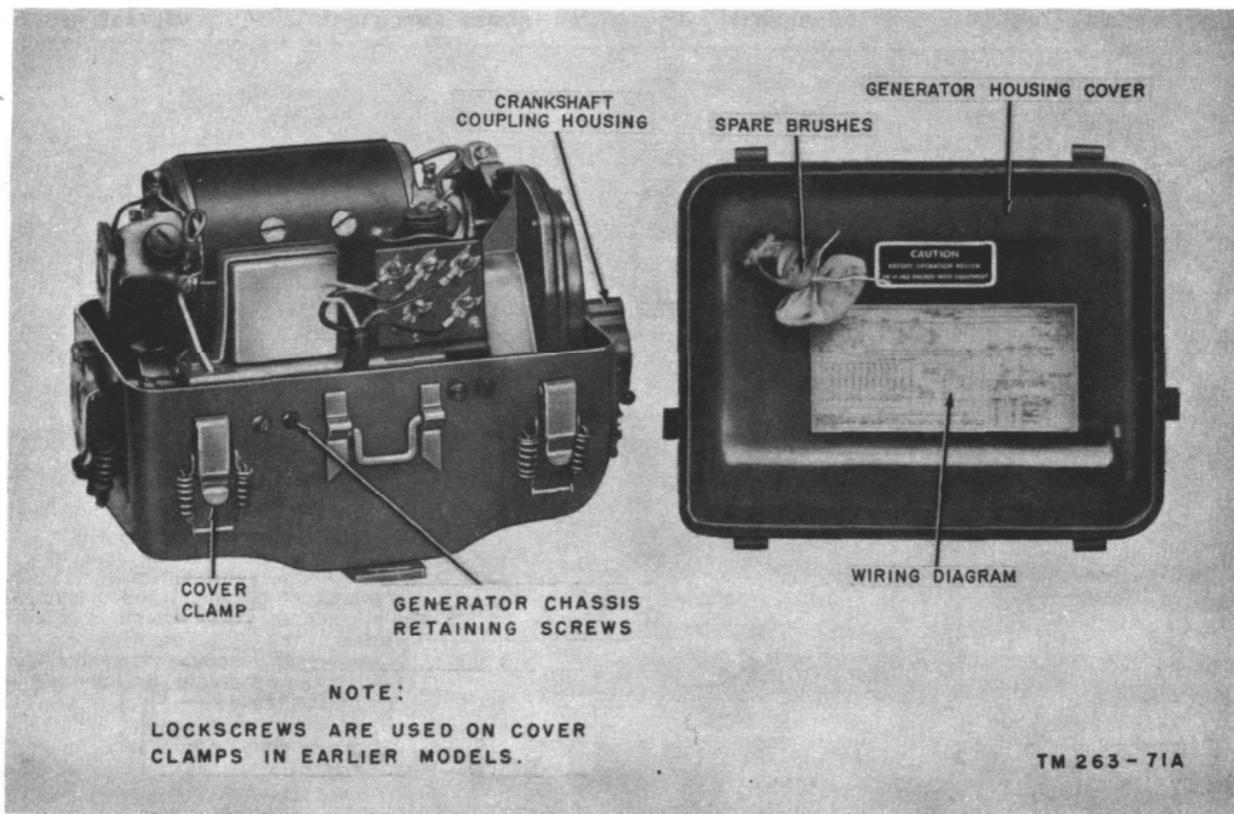
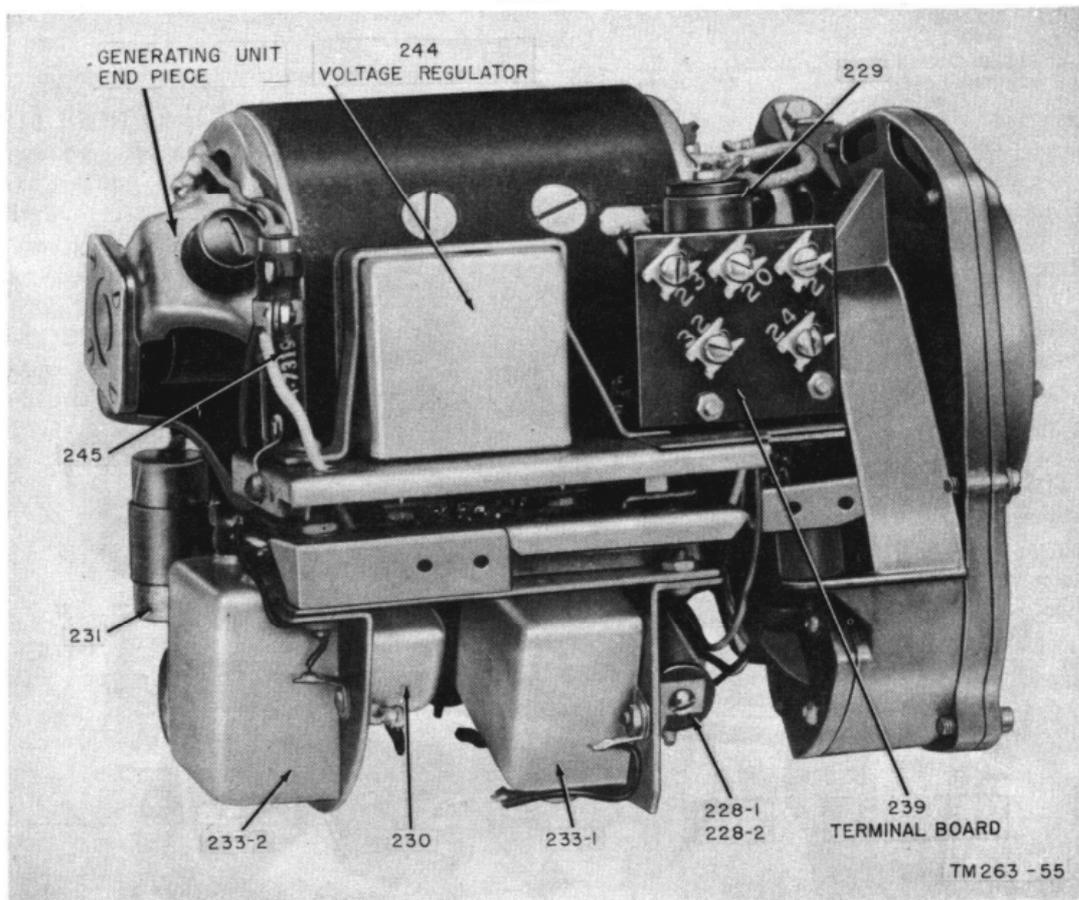

Figure 126. Generator GN-58-(*), top cover removed.
Figure 128. Generator GN-58-A, parts location (front).
ing the cover clamps, the top of the housing should come off easily when lifted straight up. Figure 126 shows Generator GN-58-A with the top cover removed. Next, loosen the screw which holds the terminal strip insulating cover in front of panel board 239 (fig. 128). This will expose the terminal board, and all voltage measurements can be made at full or no load,
- h. Remove the terminal strip insulating cover from in front of panel board 239, exposing the spade lug connections on the board (fig. 126).
- j. Remove the chassis retaining screws around the top of the lower half of the housing (fig. 126).